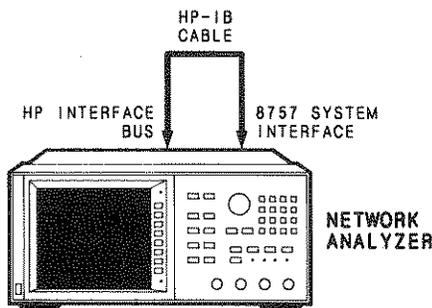

Figure 4-6. HP Interface Bus and 8757 System Interface Test Setup
1. Connect the HP-IB cable between the rear panel HP INTERFACE BUS and 8757 SYSTEM INTERFACE ports as shown in Figure 4-6.